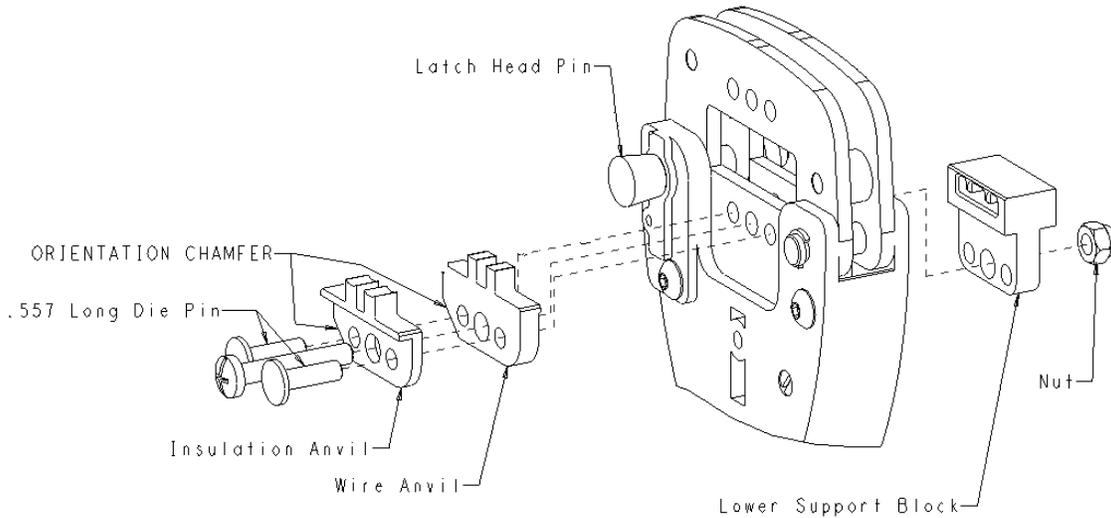

Figure 3
B. Lower Tooling [FIGURE 3]
A. Lower Tooling [FIGURE 3]